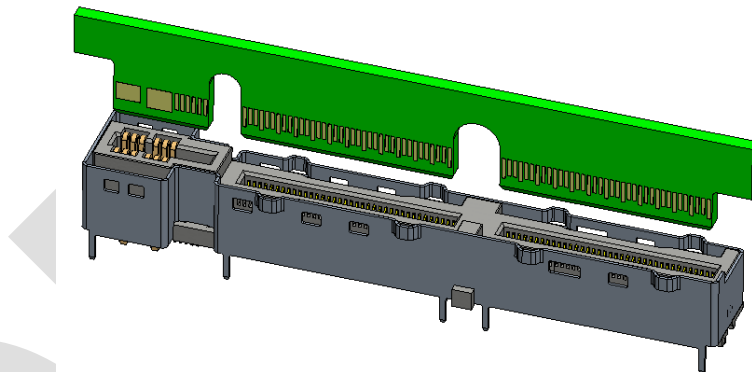

Figure 4-1 Combo x16+21A Power AIC Application
1. A single add-in card (AIC) can plug into the Vertical Combo DE x16+21A Power connector as shown in Figure 4-1.